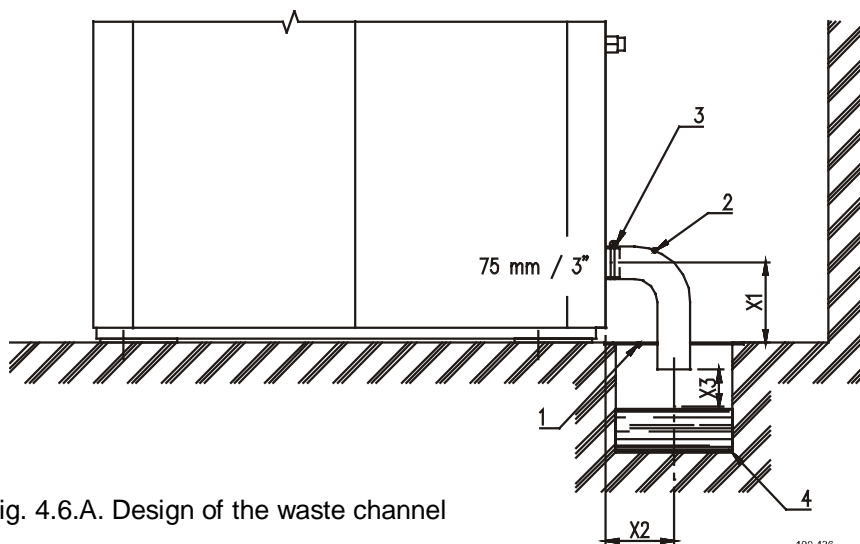

Fig. 4.6.A. Design of the waste channel
The main drain pipe must have the capacity to be able to handle the total output of all connected machines. There must also be a hole every twenty meter in the drainpipe, fig. 4.6.B, pos. 1 to assure the good working of the drain. This allows air in the main drain and facilitates drainage of the water flow. Every time a machine is coupled on the drainpipe, the diameter of the tube or the width of the waste channel must be more. See, fig. 4.6.B, D1, D2, D3.